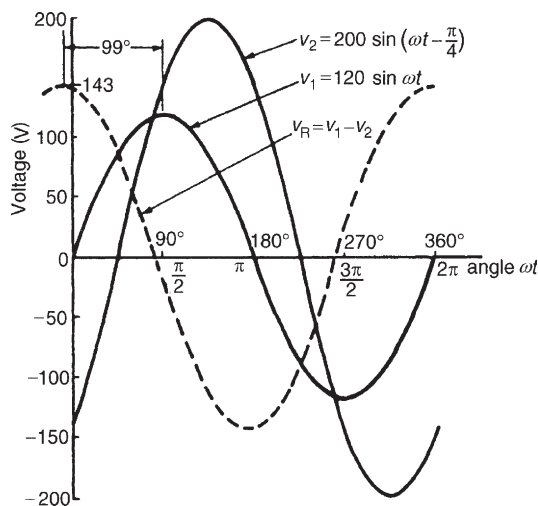

Figure 14.13
- (a) $v_1 = 120 \sin \omega t$ and $v_2 = 200 \sin(\omega t - \pi/4)$ are shown plotted in Fig. 14.13. Care must be taken
The resultant waveform, $v_R = v_1 - v_2$, is shown by the broken line in Fig. 14.13. The maximum value of v_R is 143 V and the waveform is seen to lead v_1 by 99° (i.e. 1.73 radians)